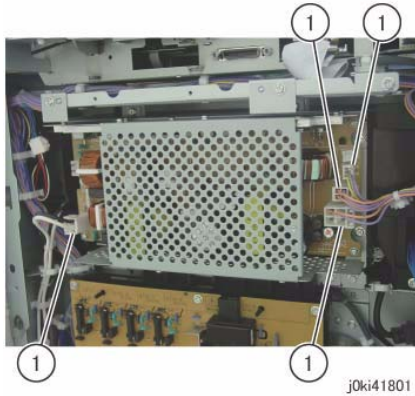

Figure 1 Disconnect the connector of the Sub LVPS
2. Disconnect the connector of the Sub LVPS. (Figure 1)